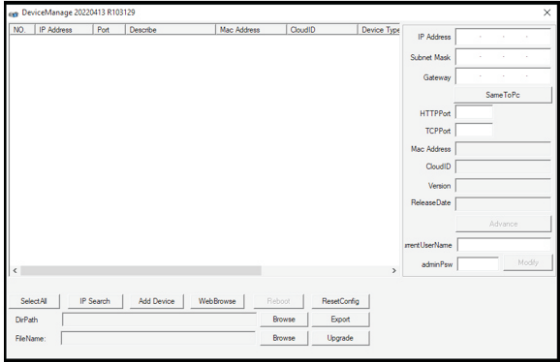

Figure 1. Device Manage Tool
- Run the "Device Manage Tool". (See Figure 1)